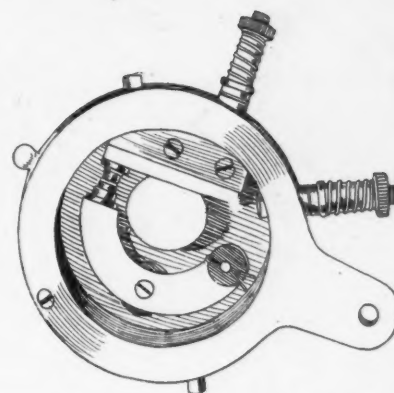

FIG. 13—BREAKER BOX OF CONNECTICUT IGNITER
**Connecticut**—The only addition to the products of the Connecticut company is the igniter shown in Fig. 5. This is simply a transformer in which the current from a battery is led to a coil through P in the figure. The interrupter mechanism is within the case, C, and is shown separately in Fig. 13. The battery current is stepped up in voltage by means of a secondary coil. The ground cable is shown in Fig. 5, as G. The prong, B1, fits into the ground terminal B. The leads to the spark plugs are lettered M and N. The igniter may be taken apart without the aid of mechanical tools.